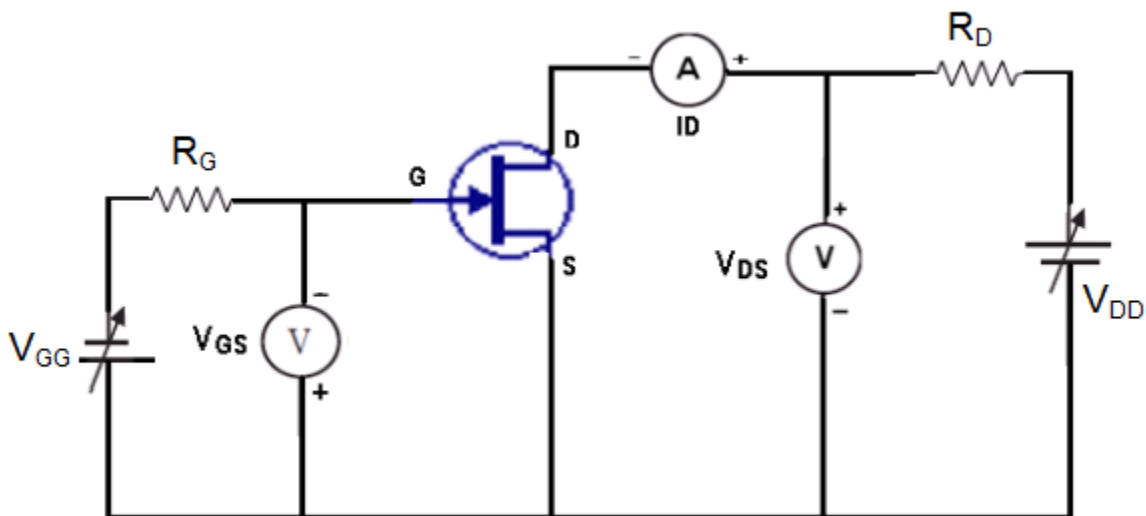

Fig. 4.5 Characteristics of JFET
- The circuit diagram is shown in fig. 4.5.